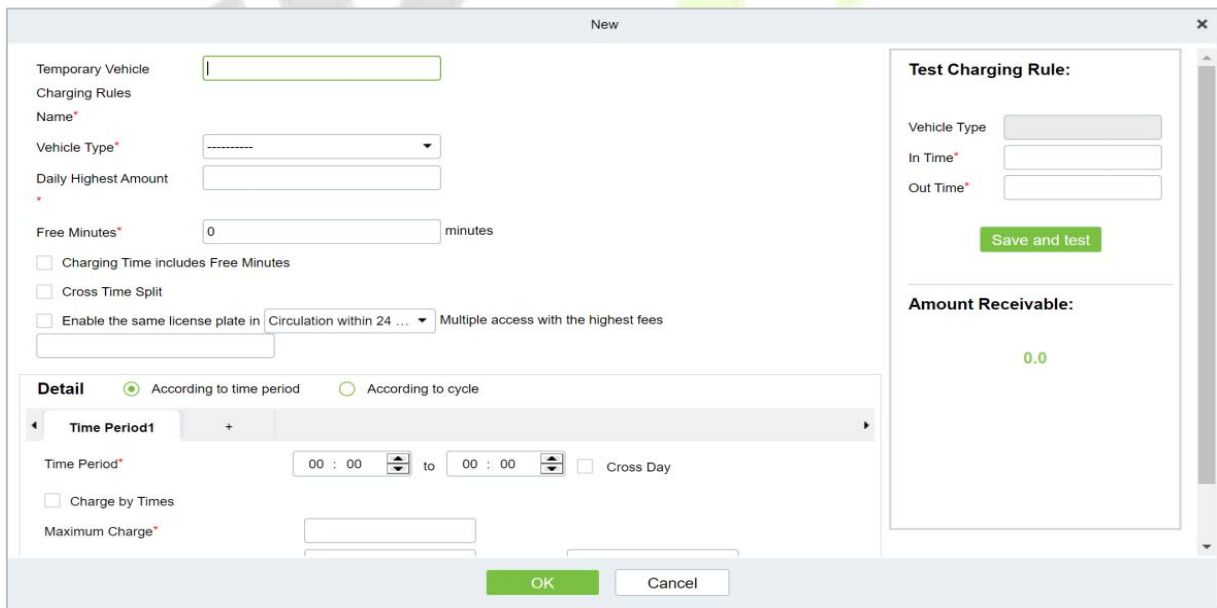

Figure 9-20 Temporary Car Charge Rules Interface
Step 2: In the Temporary Car Charge Rules interface, click **Add New**.and fill in the corresponding parameters, as shown in Figure 9-20. Please refer to Table 9-21 for parameter description.